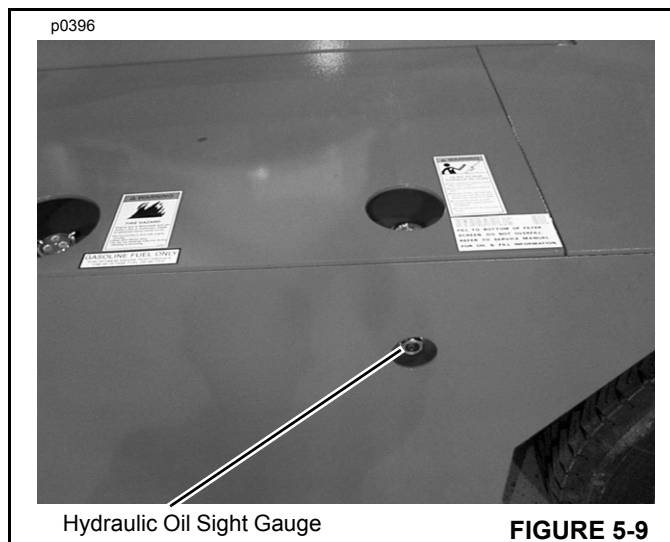

FIGURE 5-9
3. Visually check the oil level on the hydraulic oil level sight gauge (Figure 5-9). The hydraulic oil should be 3 mm (0.125 in) from the top of the sight gauge. If low, fill tank with clean recommended hydraulic oil.